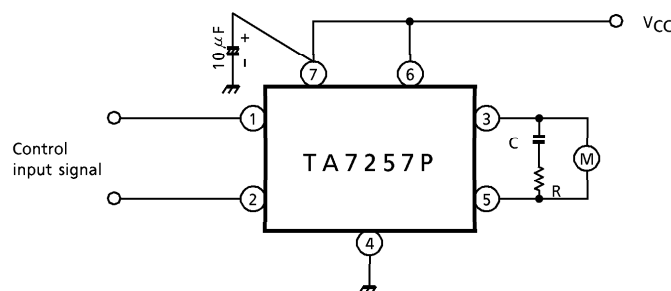

Fig.2
- (Note 1) Fig.2 shows the basic application circuit.